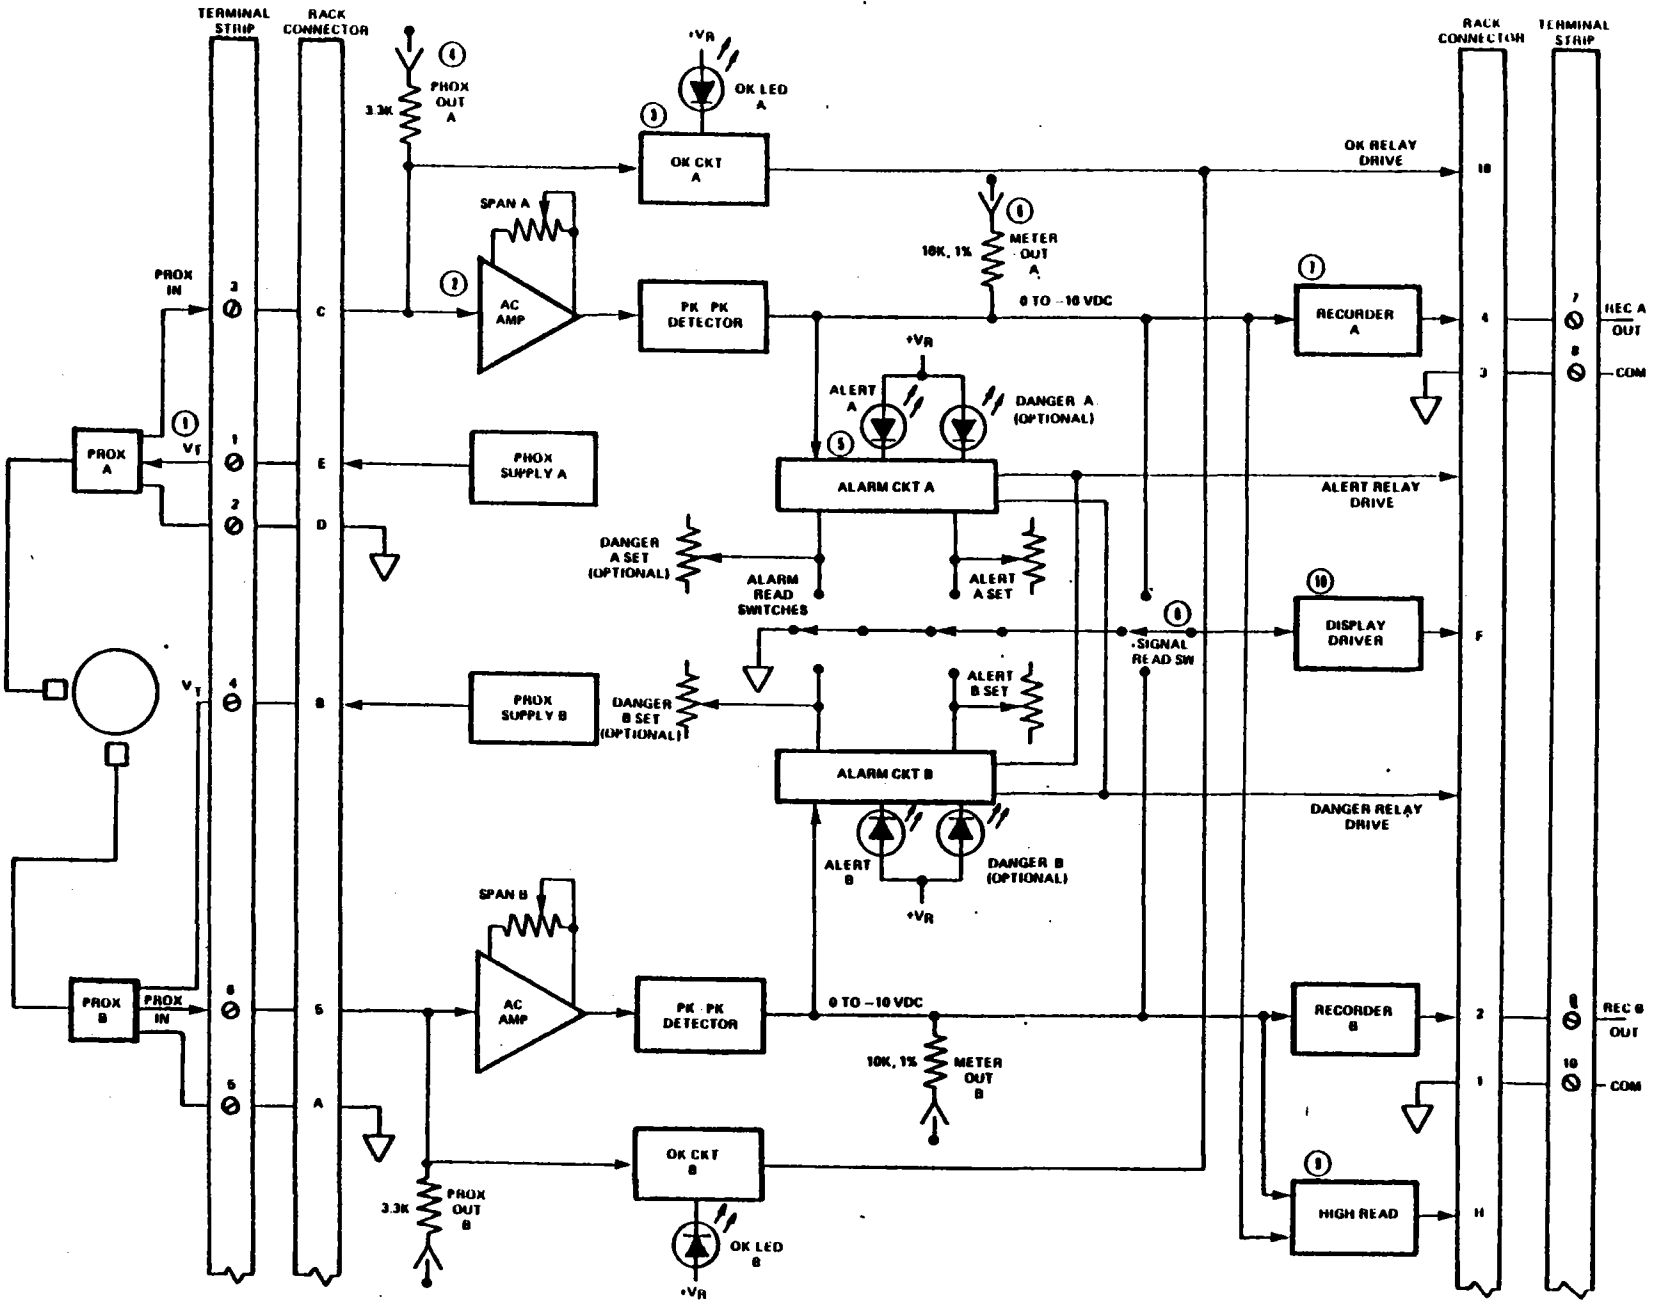

Figure 1-2. DRV Monitor System Functional Block Diagram
1-13 Figures 1-2 and 1-4 through 1-6 are functional diagrams that are presented to help the user better understand the DRV monitor operation. The text is keyed to these diagrams by the use of circled numbers. Only one channel of this dual channel monitor is described since both channels are identical in operation.
1-15 As shown in Figure 1-2, the transducer signal ① is applied simultaneously to the ac amplifier ②, the OK circuit ③ and the PROX OUT A connector ④. A span adjustment control is provided on the ac amplifier for calibration of full-scale output. The ac amplifier output is fed to a peak-to-peak detector where the signal is converted to a 0 to -10 volt level that is proportional to the peak-to-peak movement of the observed surface. The 0 to -10 volt level is applied to the alarm comparators ⑤, the METER OUT A connector ⑥, the recorder A circuit ⑦, the front panel SIGNAL switch ⑧ and the high read circuit ⑨. The recorder circuit provides a dc voltage or current output that corresponds to the 0 to -10 volt input. When pressed, the SIGNAL switch passes the 0 to -10 volt level to a display driver ⑩, which feeds an output signal to the common system display module. The high read circuit applies the larger of the two vibration levels to the rack high read bus. When in the high read mode, the display module reads the largest vibration level present on the bus.